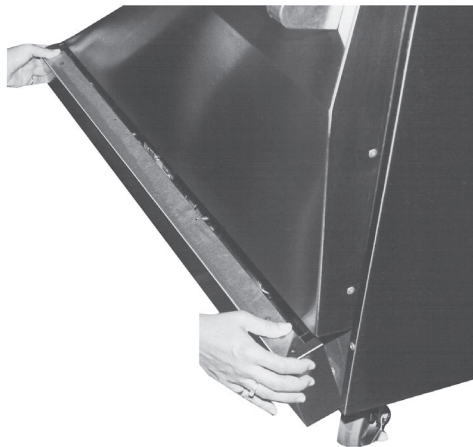

Fig. 11
1. Open unit kick panel and lift up the pilot lighting hole cover (Fig. 11).